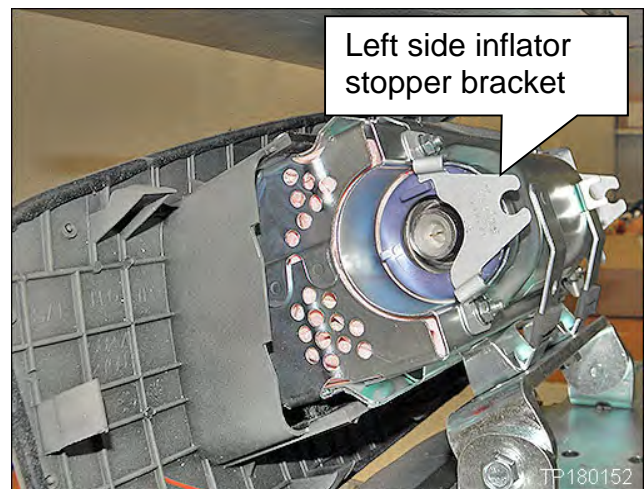

Figure 40
46. Install the left side inflator stopper bracket and two (2) inflator securing nuts finger tight (Figure 40).